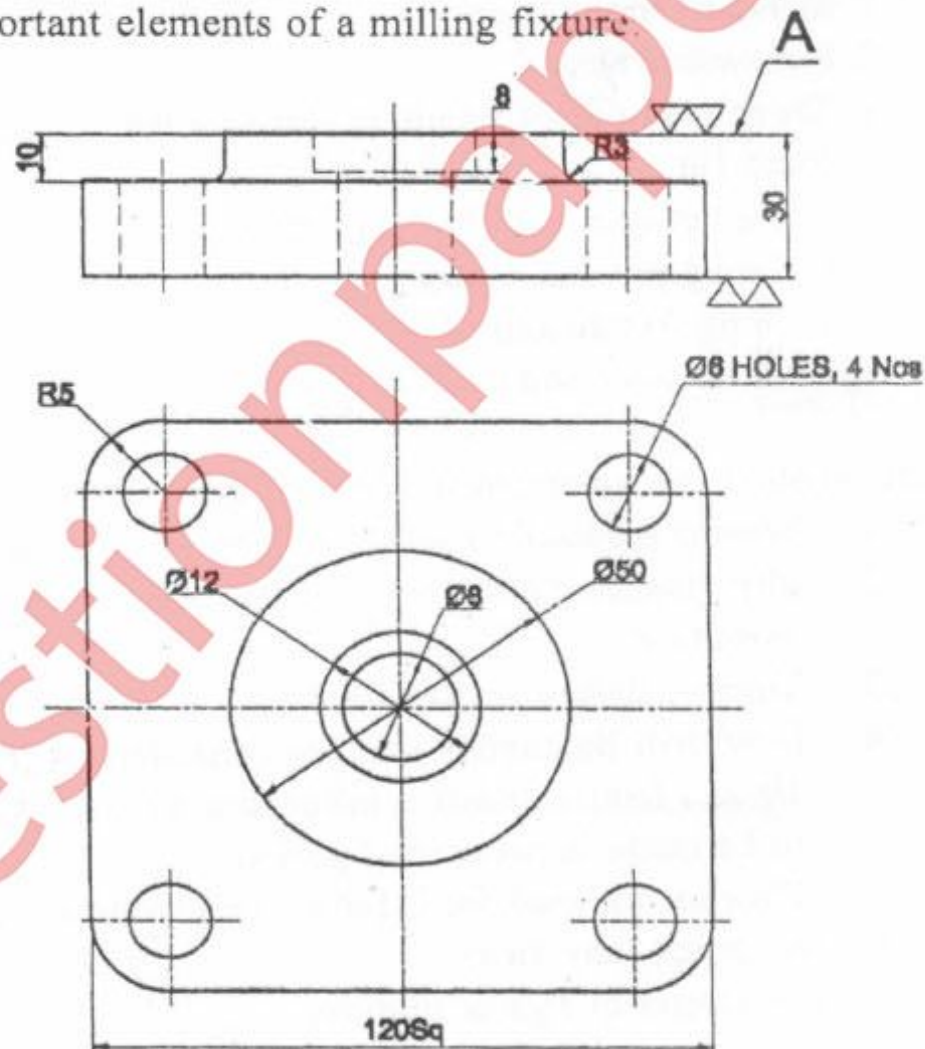

Fig. No.1
6. (a) Write down sequence of operations for the component shown in Fig.No.1 10